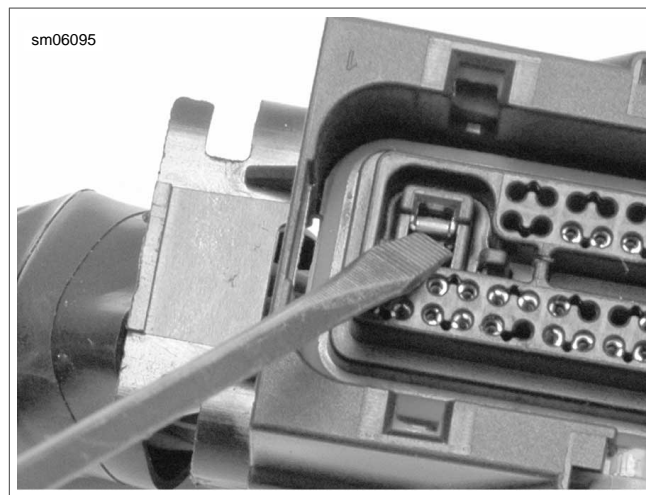

Figure A-41. Remove ECM Ground Terminal
3. See Figure A-41. Using a thin blade screwdriver, release latch and pull ground wire, wire seal and terminal from cover side of housing.